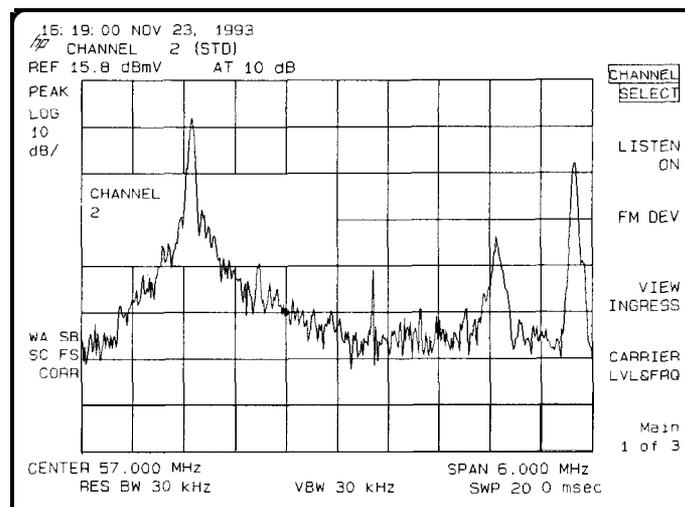

Figure 5-6. Channel Selected
3. The current channel number appears next to the channel format at the top of the screen in the title line. See Figure 5-6.